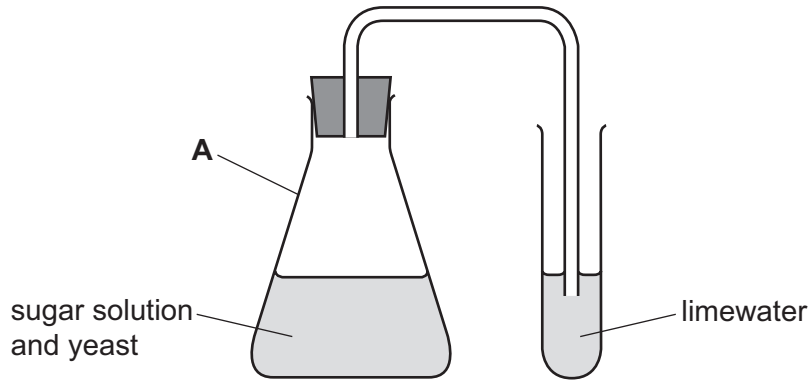

Fig. 1.1
- step 5** Place the mixture obtained in the apparatus shown in Fig. 1.1.
- (a) Name the item of apparatus labelled **A** in Fig. 1.1.